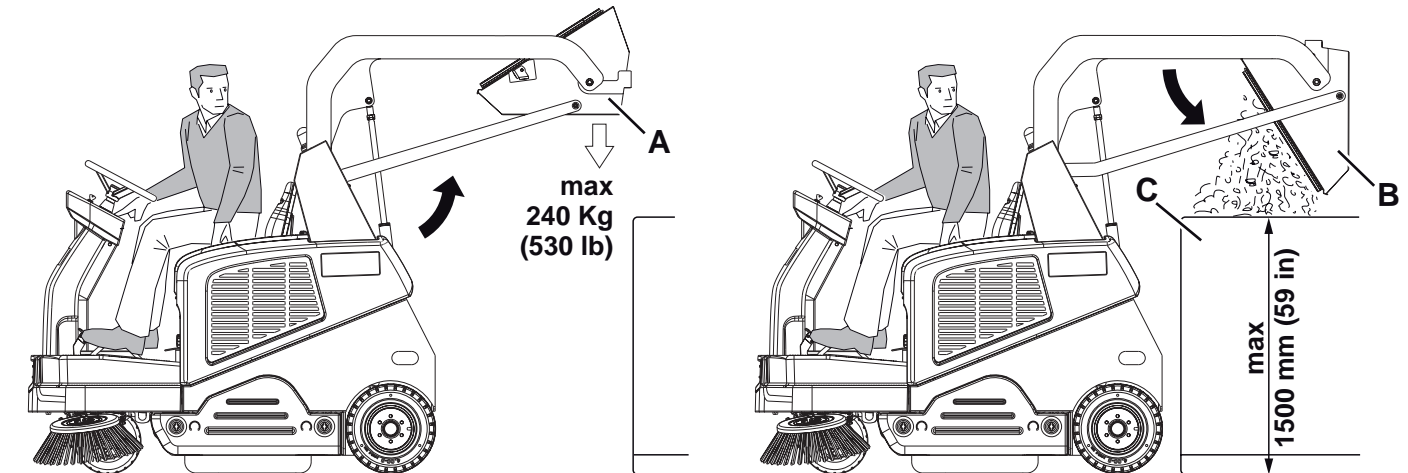

Figure 2
2. Press the enable push-button (66) while pressing the hopper lifting push-button (61) to lift the hopper (A, Fig. 2) up to the desired position.
4. Rotate the hopper (B) with the enable push-button (66) and push-button (62) to dump the accumulated waste (C).